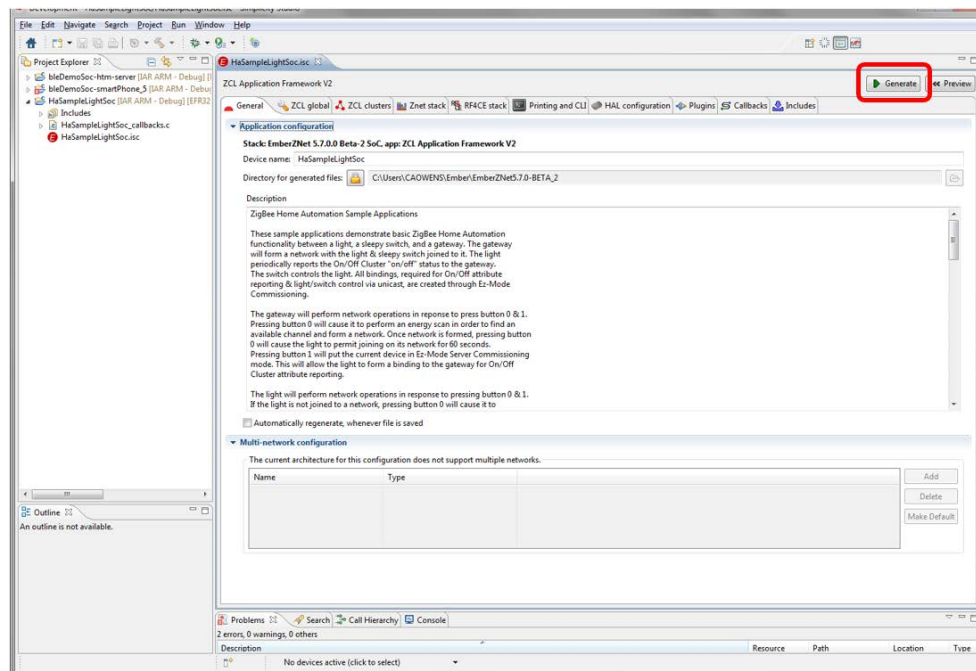

Figure 23. AppBuilder General Tab
5. In the Project Configuration dialog, change the name of the project if you want, and click **[Finish]**. AppBuilder creates an example project and opens with the project in the AppBuilder General Tab (shown later in Figure 23).